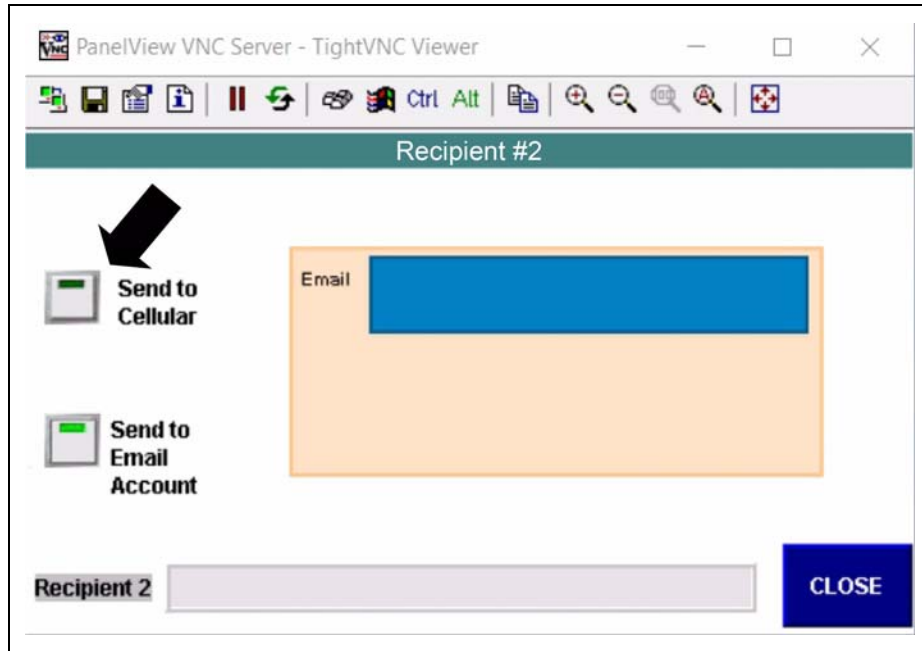

Figure 6H
7. Press the radio button next to “Send to Cellular”. This display will look like this as shown in Figure 6H.